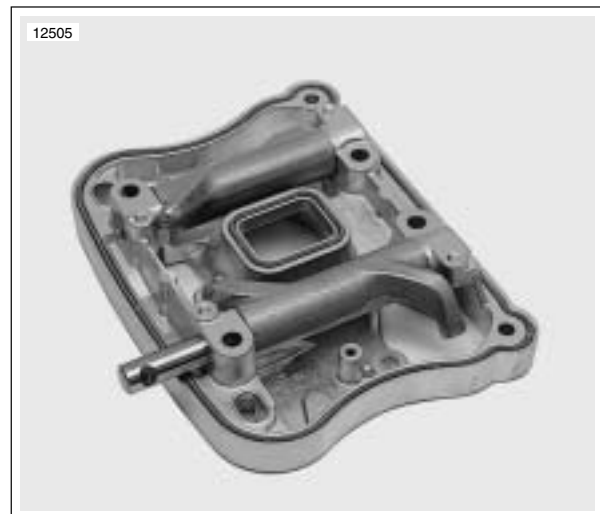

Figure 3-58. Removing Rocker Arm Shafts
8. See Figure 3-58. Remove rocker arm shafts by tapping them out using a hammer and a soft metal punch.